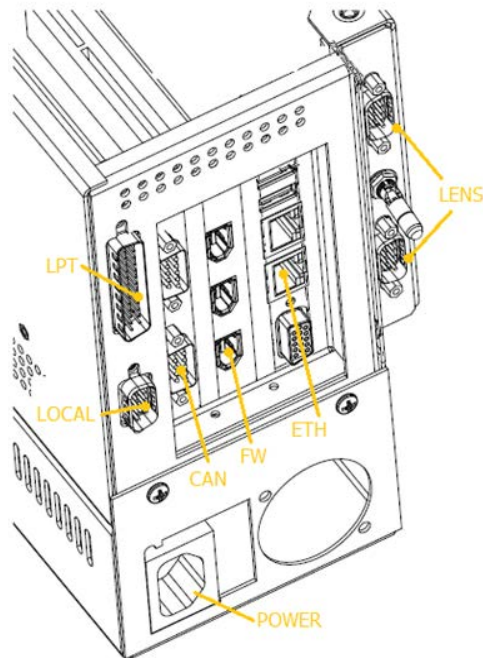

Figure 12 - CamBot Brick Cable Connections
- Before the Brick PC is removed, note the location of the connections going to the CamBot Brick PC (**Figure 12**).
2. Reestablish all connections as per your reference and those outlined in **Figure 12**.